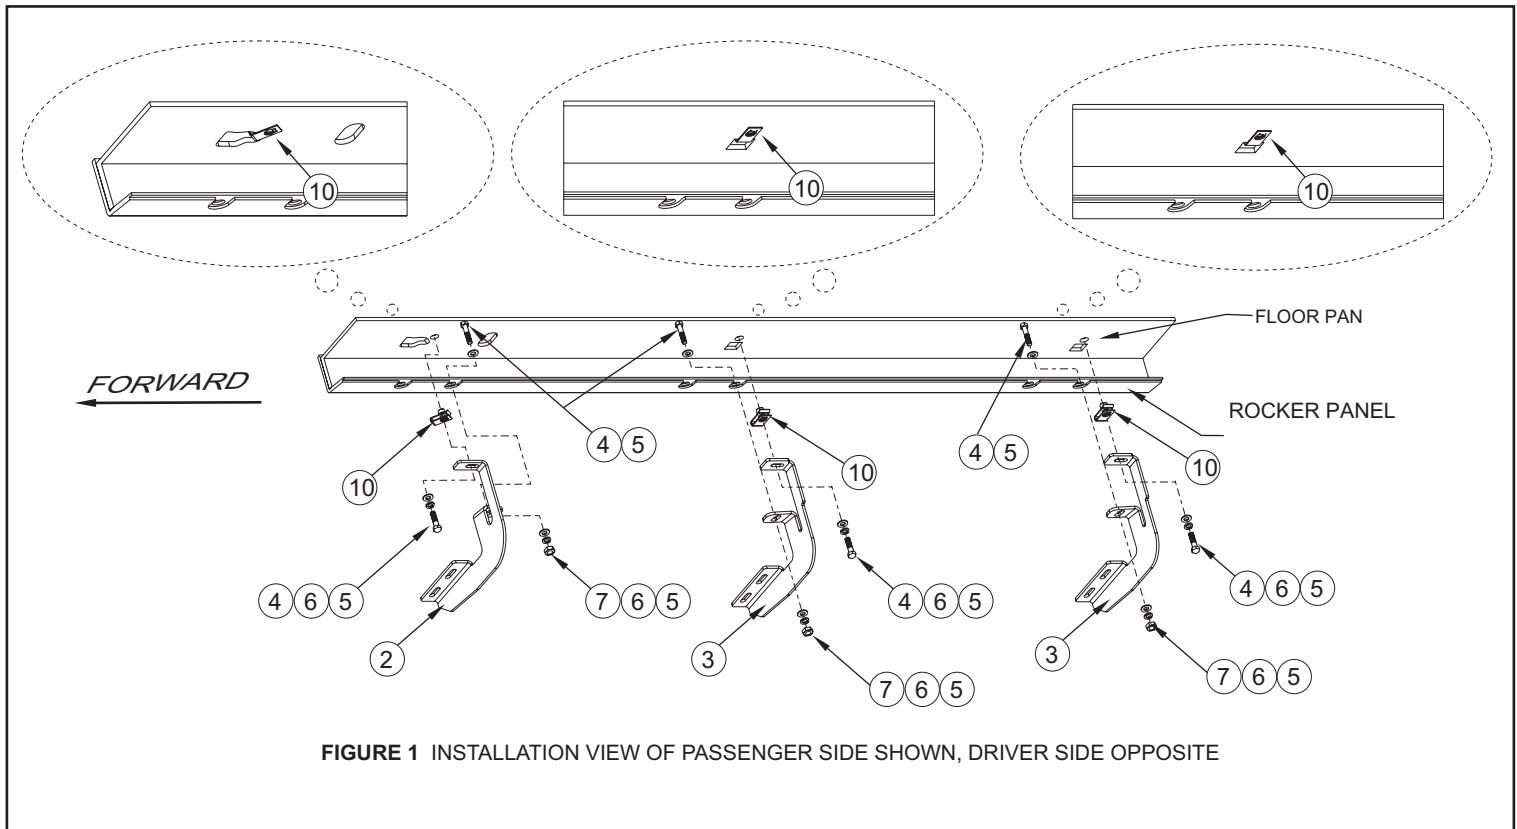

FIGURE 1 INSTALLATION VIEW OF PASSENGER SIDE SHOWN, DRIVER SIDE OPPOSITE
SEE FIGURE 1.
STEP 3. Insert extruded "u" nut through square hole in vehicle floor pan so it is positioned over the round hole. **SEE FIGURE 1.**
STEP 4. Install brackets to the extruded "u" nuts inserted into the vehicle floor pan with 5/16" fasteners as shown. **SEE FIGURE 1.**
STEP 5. Install brackets to vehicle rocker panel with 5/16" fasteners as shown. **SEE FIGURE 1** for hole locations.